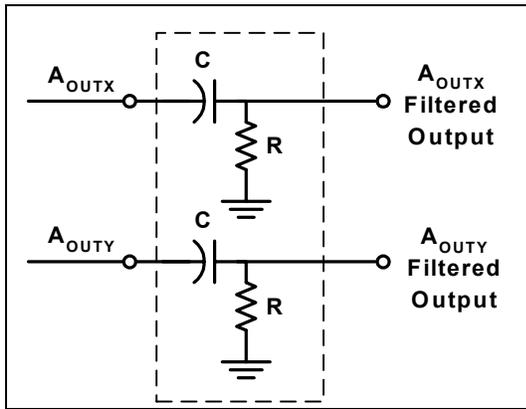

Figure 3: High Pass Filter
**AC Coupling:** For applications where only dynamic accelerations (vibration) are to be measured, it is recommended to ac couple the accelerometer output as shown in Figure 3. The advantage of ac coupling is that variations from part to part of zero g offset and zero g offset versus temperature can be eliminated. Figure 3 is a HPF (high pass filter) with a -3dB breakpoint given by the equation:  $f = 1/2\pi RC$ . In many applications it may be desirable to have the HPF -3dB point at a very low frequency in order to detect very low frequency accelerations. Sometimes the implementation of this HPF may result in unreasonably large capacitors, and the designer must turn to digital implementations of HPFs where very low frequency -3dB breakpoints can be achieved.